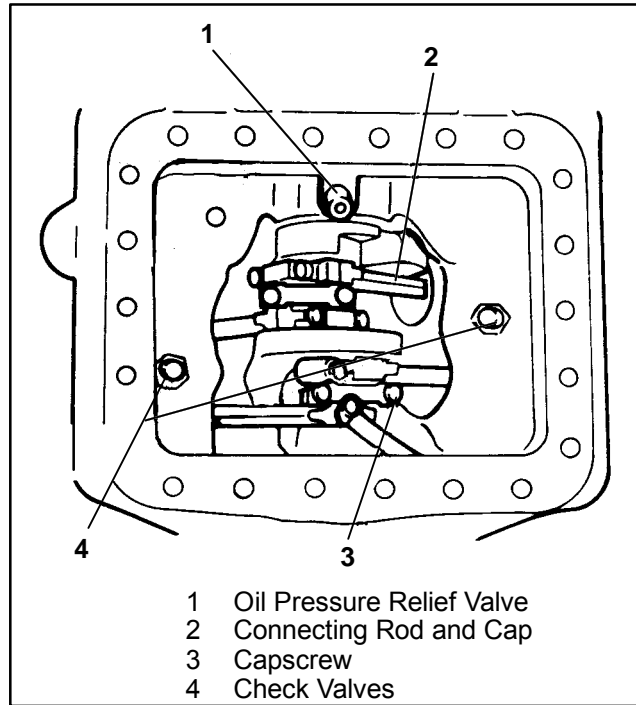

Figure 3-11. Bottom Plate and Oil Strainer Removed
be installed during compressor reassembly. (See Figure 3-11)
b. Remove and check operation of oil return check valves (See Figure 3-11). The check valves are free floating devices and can easily be checked visually.
c. Remove and check oil pressure relief valve (See Figure 3-11). The oil pressure relief valve is a spring loaded device which can be checked by using a small piece of stiff wire to ensure that the spring can be depressed.
- c. Check operation and reinstall check valves and relief valve. (See Figure 3-11). The check valves are free-floating devices and can easily be checked visually. The relief valve is a spring-loaded device which can